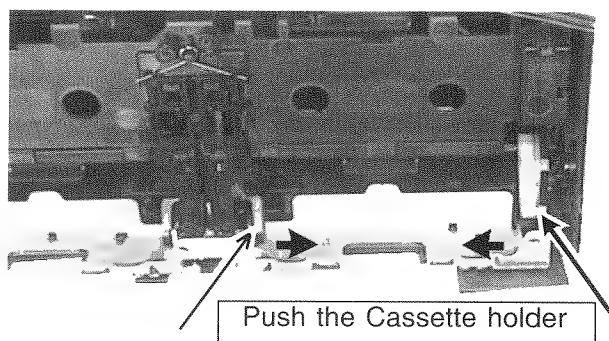

Fig.16
- 3.Remove the cassette door.(See Fig.16)